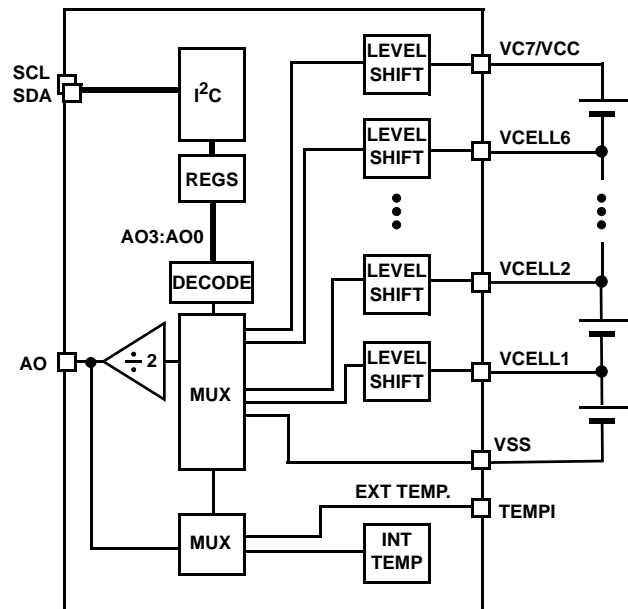

FIGURE 6. ANALOG OUTPUT MONITORING DIAGRAM
The ISL9208 devices can be used to externally monitor individual battery cell voltages and temperatures. Each quantity can be monitored at the analog output pin (AO). The desired voltage is selected using the I²C interface and the AO3:AO0 bits. See Figure 6.